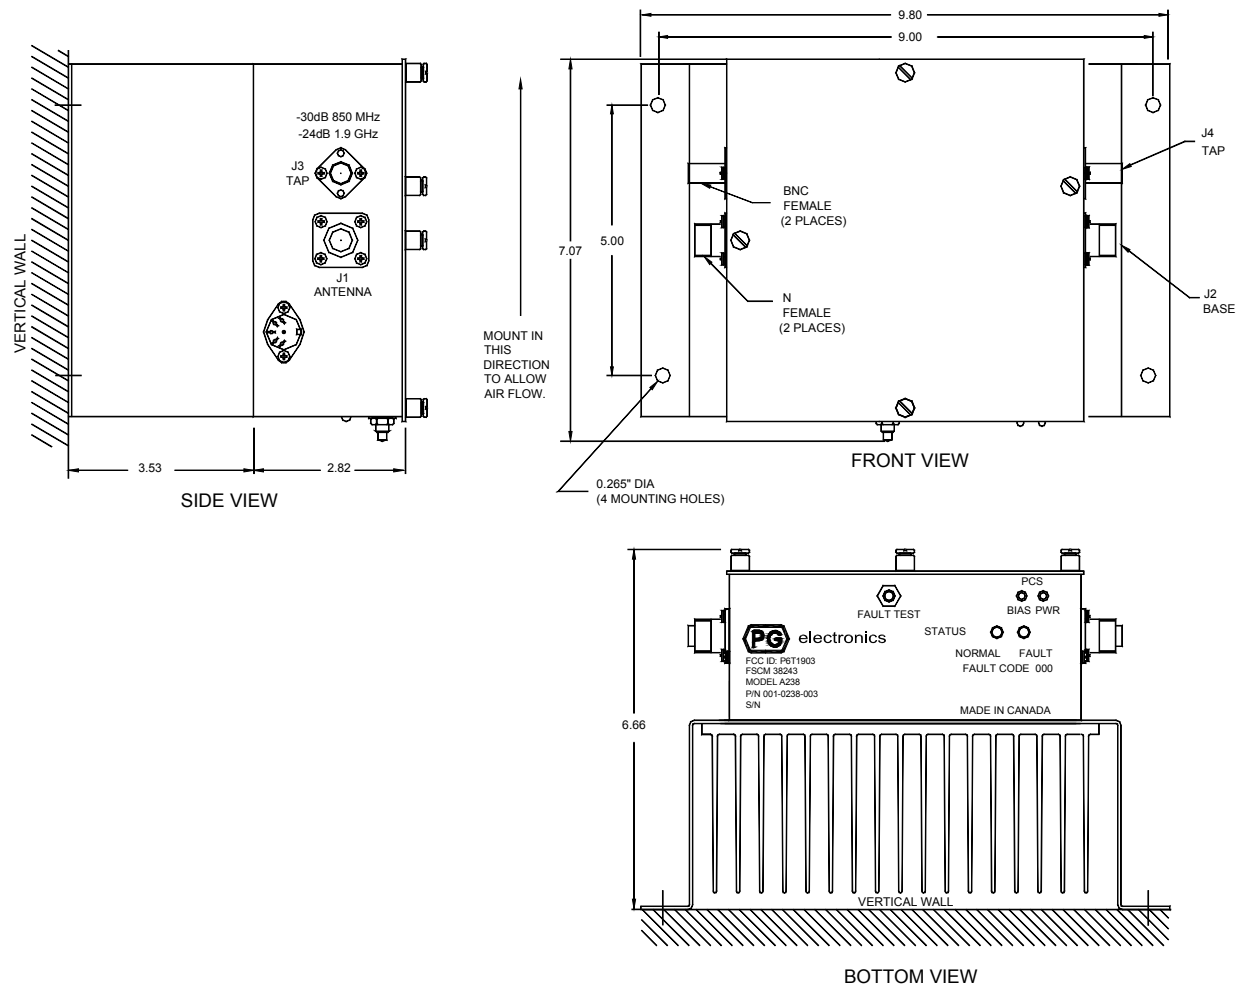

Figure 3-1 Installation Data
1.1.3 Physical Description - The bidirectional amplifier, shown in Figure 3-1, is designed to be mounted on a flat vertical surface. The unit has two N connectors for external electrical connection and two BNC test ports to check RF signals. Color coded indicators provide visual display of the unit's operating status.